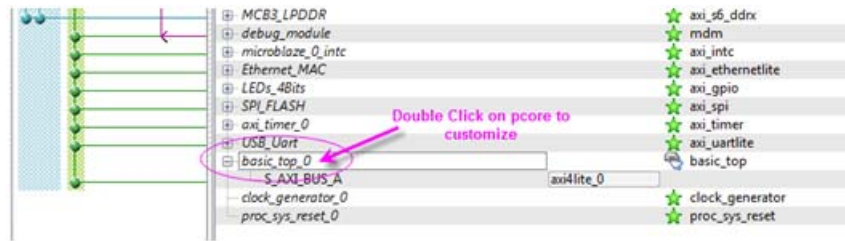

Figure 1-11: Customize PCORE
- a. Double click on **PCORE** to customize it, as shown in Figure 1-11.